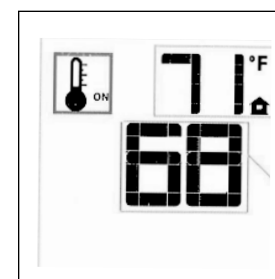

Figure 16.17. Smart Set Temp.
- To adjust the temperature, press the Up or Down Arrow Keys until the desired Set Temperature is displayed. Fig. 16.17.